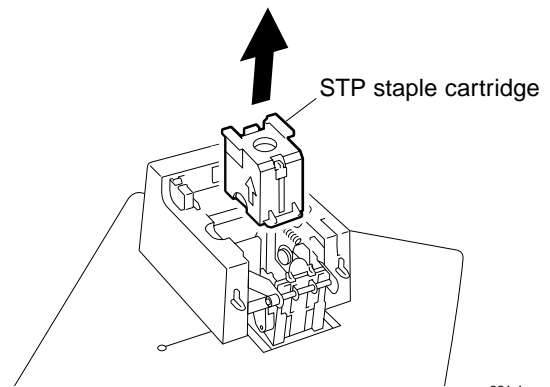

Fig. 6-3
2. Remove STP staple cartridge. (See Fig. 6-3)
- Remove STP staple cartridge. (See Fig. 6-3)